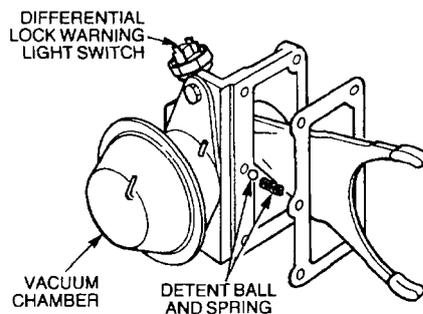

Figure 184 Removing the Differential Lock Vacuum Chamber Assembly
- n. Remove the vacuum chamber assembly. Remove and discard the gasket (Figure 184). Take care not to lose the detent ball and spring during removal.